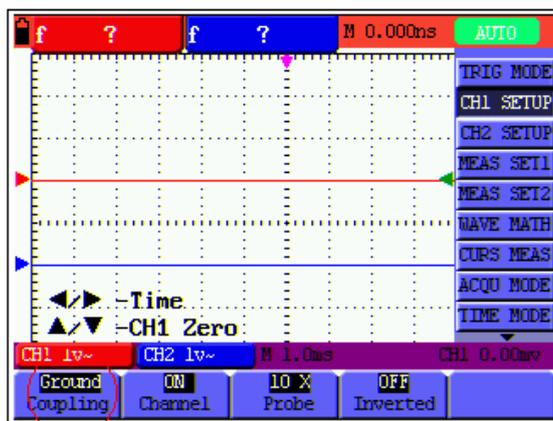

Figure 50
4. Add the mode "Ground" to the Coupling mode (see figure 50)